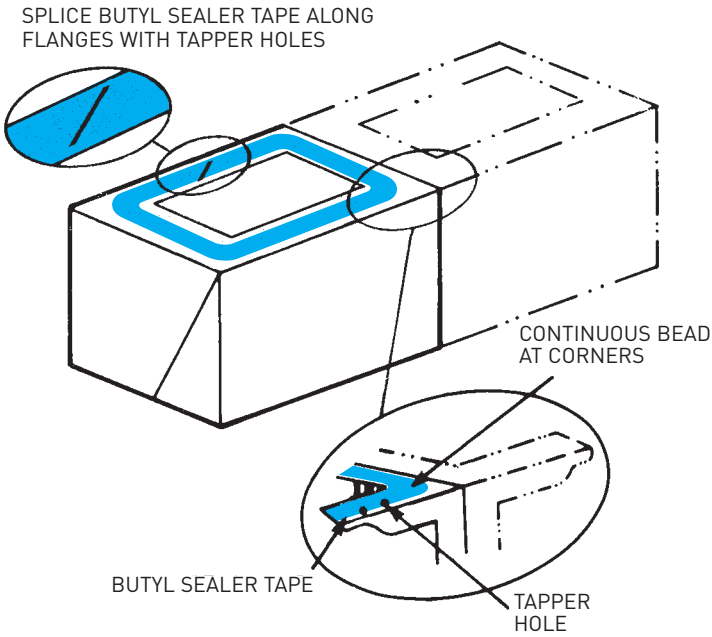

Figure 2
- Apply the 1" flat butyl sealer tape around the periphery of the top flange of the basin-fan section as shown below in Diagrams I, J or K (See Figure 2). This butyl sealer tape must be centered directly over the centerline of the taper holes and on the centerline of the end flanges where there are no taper holes.
Figure 2: Plan view of recommended unit servicing and maintenance spacing for single air inlet unit (Series 1500 Cooling Towers, FXV Closed Circuit Cooling Towers, CXV Evaporative Condensers, Series V Cooling Towers, Closed Circuit Cooling Towers and Evaporative Condensers)